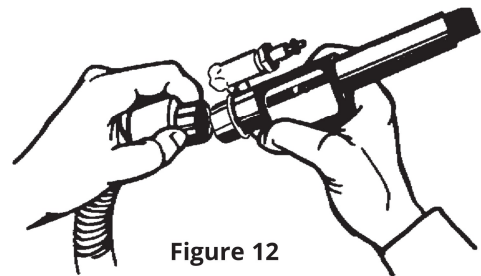

Figure 12
3. Firmly tighten black hose connector by hand (see Figure 12).